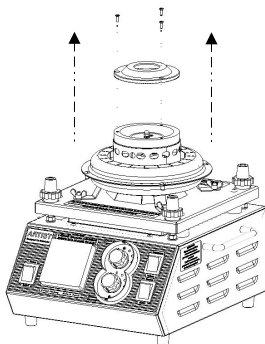

Figure 6
3. Detach spinning head cover by removing three flat-head screws, see Fig.6. If the cover is ‘glued’ to the head, gently tap with the screwdriver handle in order to loosen the parts. Rinse the cover with water and wipe dry immediately.